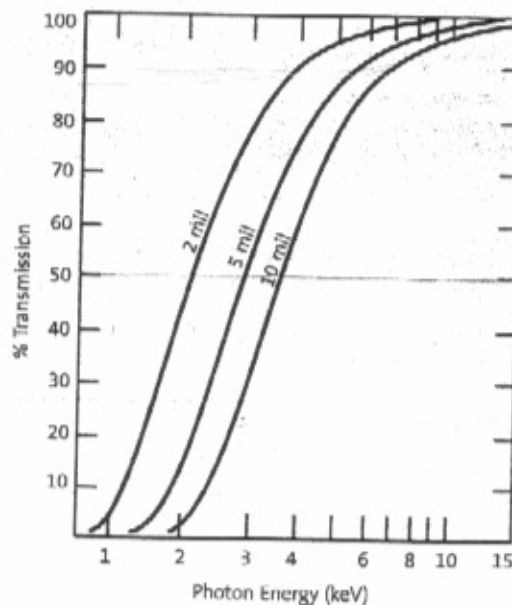

Figure 4 Beryllium Transmission at Various Photon Energies
The efficiency of a detector is the product of window transmission and gas absorption for a specific X-ray energy. Figure 4 is a plot of window transmission vs. photon energy for Beryllium and Figures 5, 6, 7, and 8 are the absorption curves for Ne, Ar, Kr, and Xe. Absorption of X-rays varies directly with the atomic number (Z) of the absorber material. Choice of materials, including the detector gas, is critical.